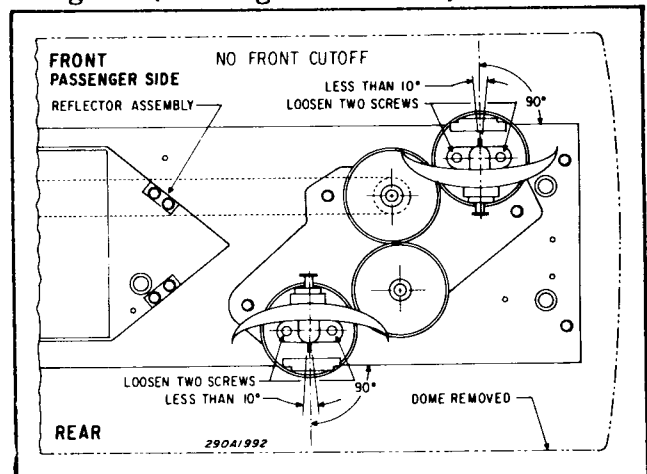

Figure 9. Reflector Assembly Adjustment. (No Front Cut-Off.)
- a. On units with no front cut-off, the reflector assemblies should be perpendicular in relation to the front and rear of the light bar (see Figure 9).
- a. Loosen the two screws which secure the reflector assembly to the gear (see Figure 9 or 10).
a. Remove the retaining ring (see Figure 9 or 10). Lift the gear and reflector assembly to disengage the gear teeth.